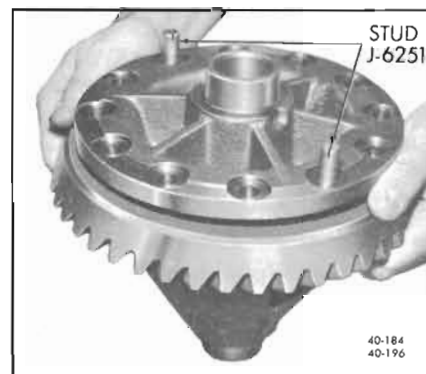

Figure 40-196—Installing Ring Gear On Differential Case
1. If ring gear was removed, install ring gear on case flange using studs as shown in Figure 40-196.